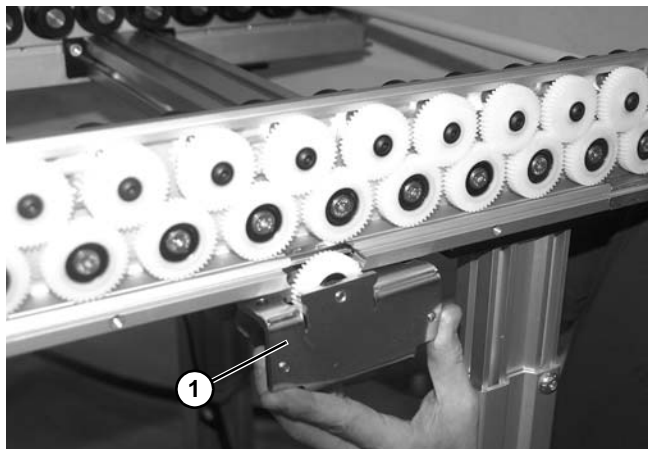

Figure 75
3. Lower and remove motor (**Figure 75, item 1**) from conveyor frame.